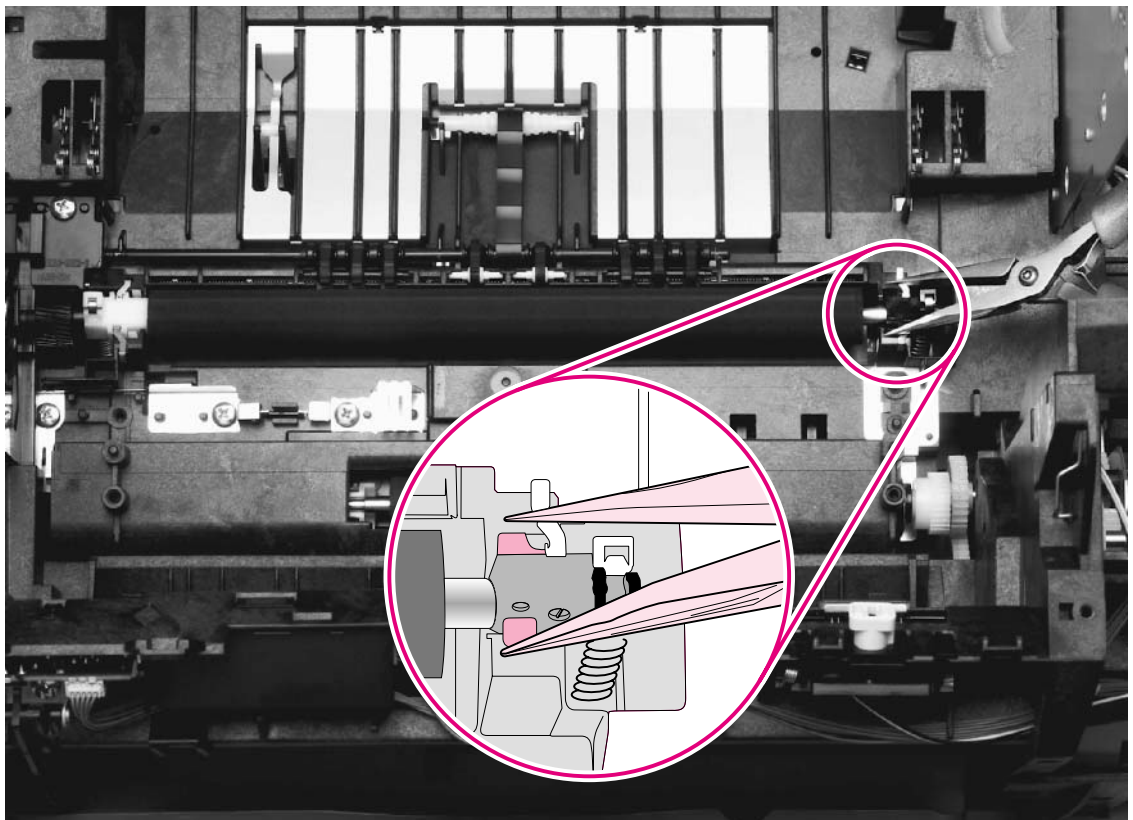

Figure 89.
- 2 Use needle-nose pliers to gently squeeze the small tabs at the right side of the transfer roller (see the detail in figure 89) and then also squeeze the tabs at the left side of the transfer roller to release the roller.